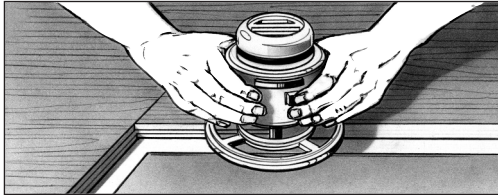

Fig. 49
7. Clean factory groove using router and a router bit (Fig. 49). Any damaged factory tongue should be routed. Make sure router depth is set exactly. Place a spline into grooved end joint and any areas of damaged factory tongue.